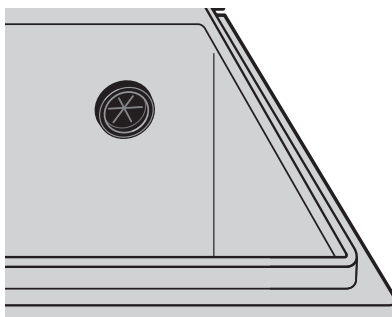

Figure 2, Inside View
3. Place the rubber Power Pass™ grommet from the outside of the box in the hole and be sure that it is properly seated. **BE SURE NO SHARP METAL EDGES ARE EXPOSED** (figure 2).